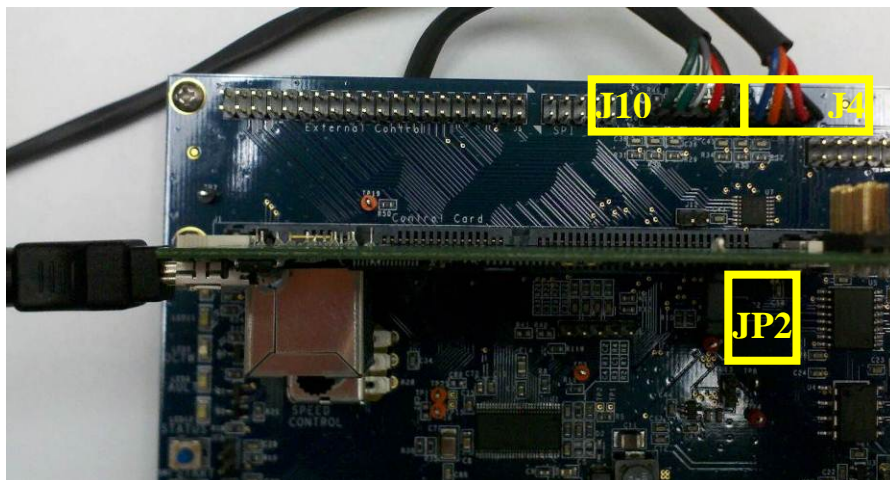

Figure 2 USB debugger port, encoder and hall sensor feedback
2. Ensure that jumper JP2 is in place (as it is shipped from the factory). See Figure 2.
4. Connect the usb cable provided to your PC and directly to the LS31 controlCARD as shown in Figure 2..
5. Connect the 5 pin SIP connector labeled J4 to jumper J4 on the DRV8301 EVM as also shown in Figure 2. This is for the encoder feedback. Please note that pin one on this connector is indicated by a triangle on the board and should be connected to the **blue** wire in the SIP connector. If you receive a calibration result of 4000 (in the Demo GUI, for example) you may have this connector reversed on your board. If the GUI Encoder Fault LED is red, ensure that the motor encoder pins are properly connected to the DRV83xx board. To reset this fault disable and re-enable the Enable Motor GUI control and Calibrate Enable check box.